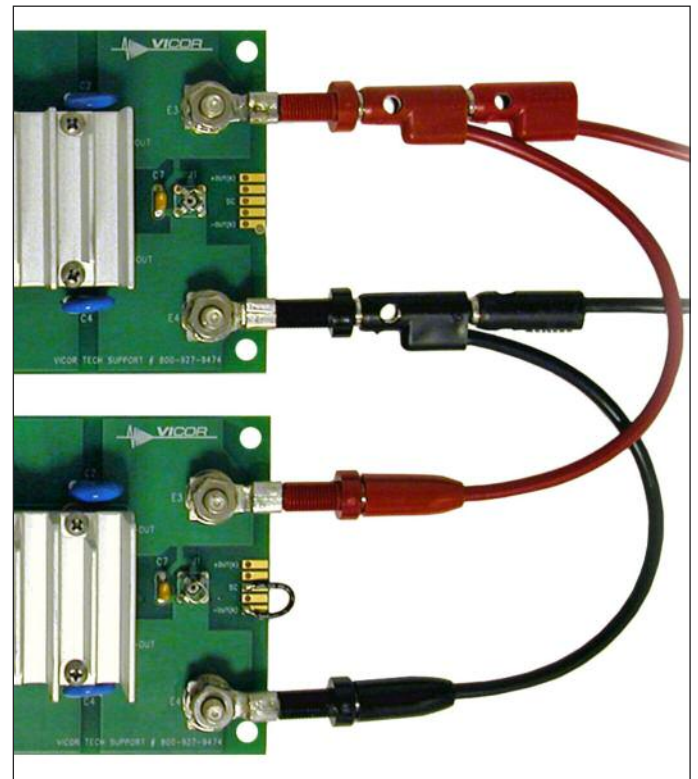

Figure 8: Output connections, lower module is a dedicated booster
4. Connect the SC connection to –OUT(K) on one of the Evaluation Boards, Figure 8. The converter on this board is now a dedicated booster and cannot process power without receiving a PR signal from another converter.